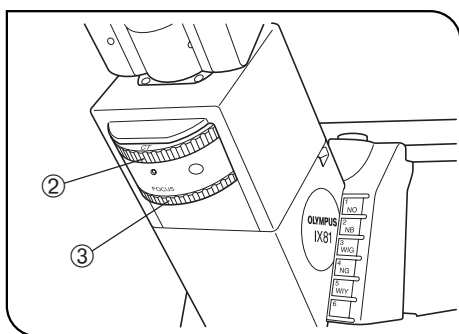

Fig. 50
4. When the U-BI90CT, binocular observation tube is used, rotate the CT turret ② to position "CT" to engage the CT lens in the light path. (Fig. 50) When the U-BI90/U-TBI90 binocular observation tube or U-TR30H-2 trinocular observation tube is used, remove an eyepiece and attach the U-CT30 centering telescope.
5. Rotate the focusing ring ③ (or, with the centering telescope, rotate the knurled section) to bring the objective's exit pupil into focus. (Fig. 50)